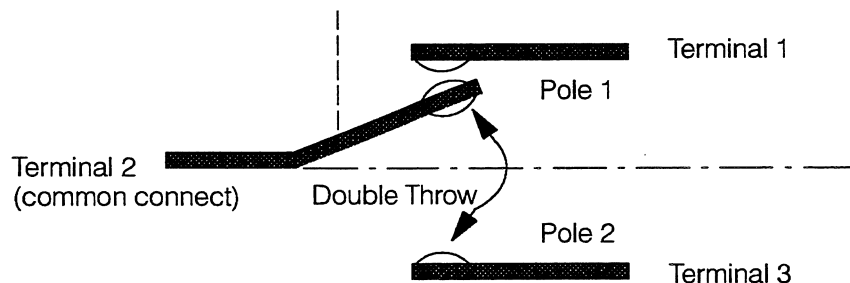

Figure 3. SPDT (Single Pole, Double Throw)
In some applications, there is a need to switch the current path between a given set of switching elements within a Pole without opening or breaking the path. This is commonly referred to as Make-Before-Break, or Shorting Contacts. The implication here is a common terminal that can be connected from one switching element to another (3 terminals), therefore a Double Throw (DT) configuration is required. In a Single Throw (ST) configuration, there is only an open, and a closed position (2 terminals). A Make-Before-Break uses a shorting bar to first make connection with terminal 1, before disconnecting from terminal 3 (see Figure 3, page 12).